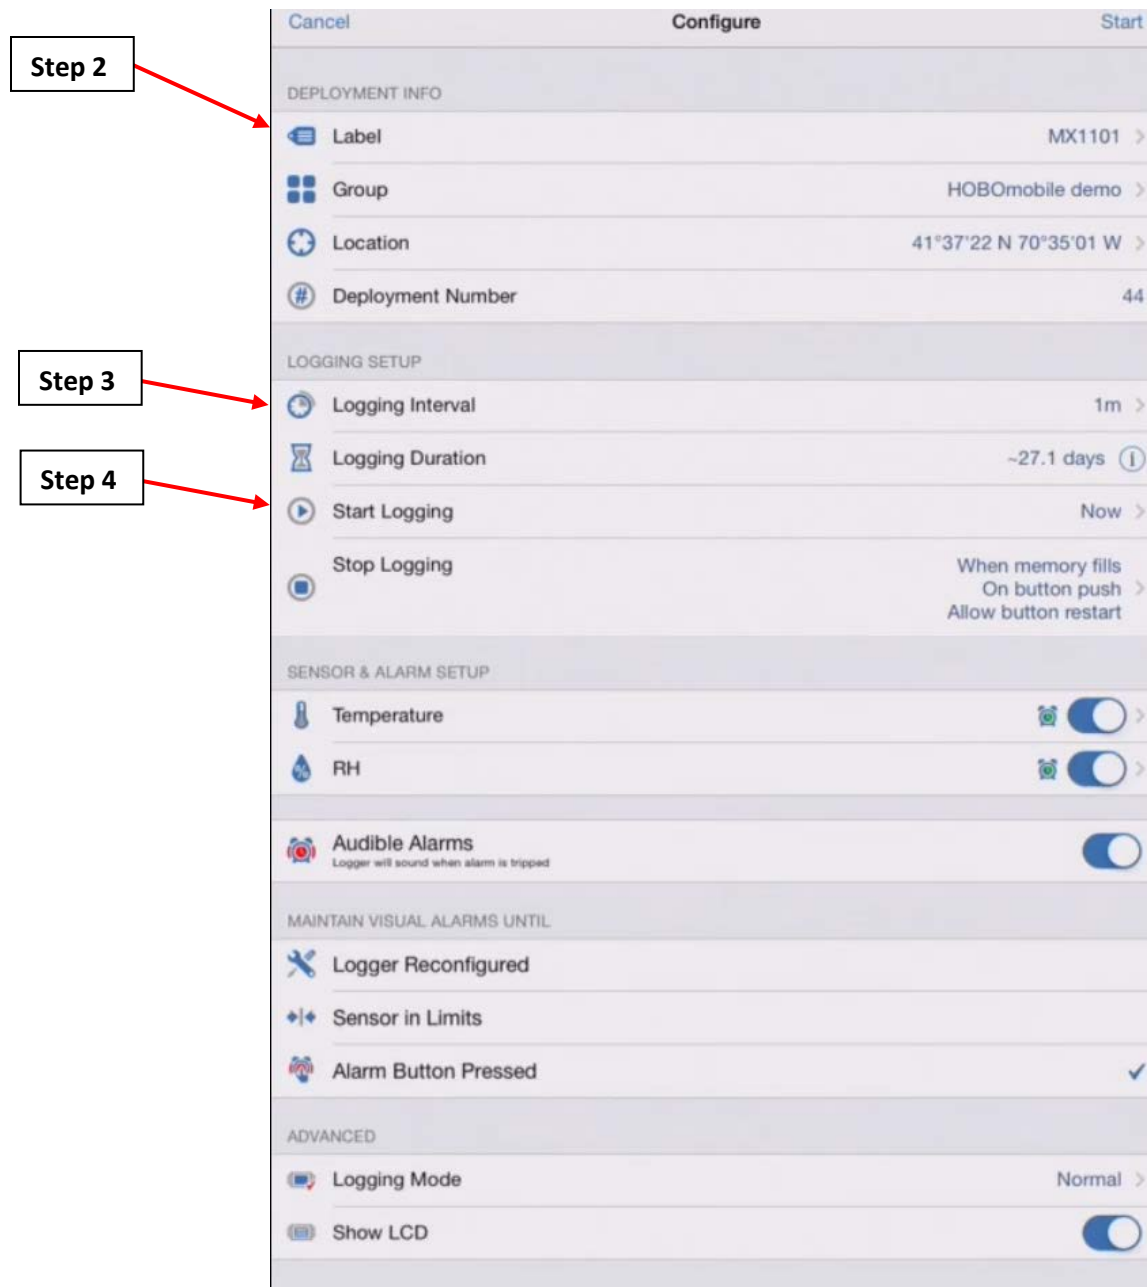
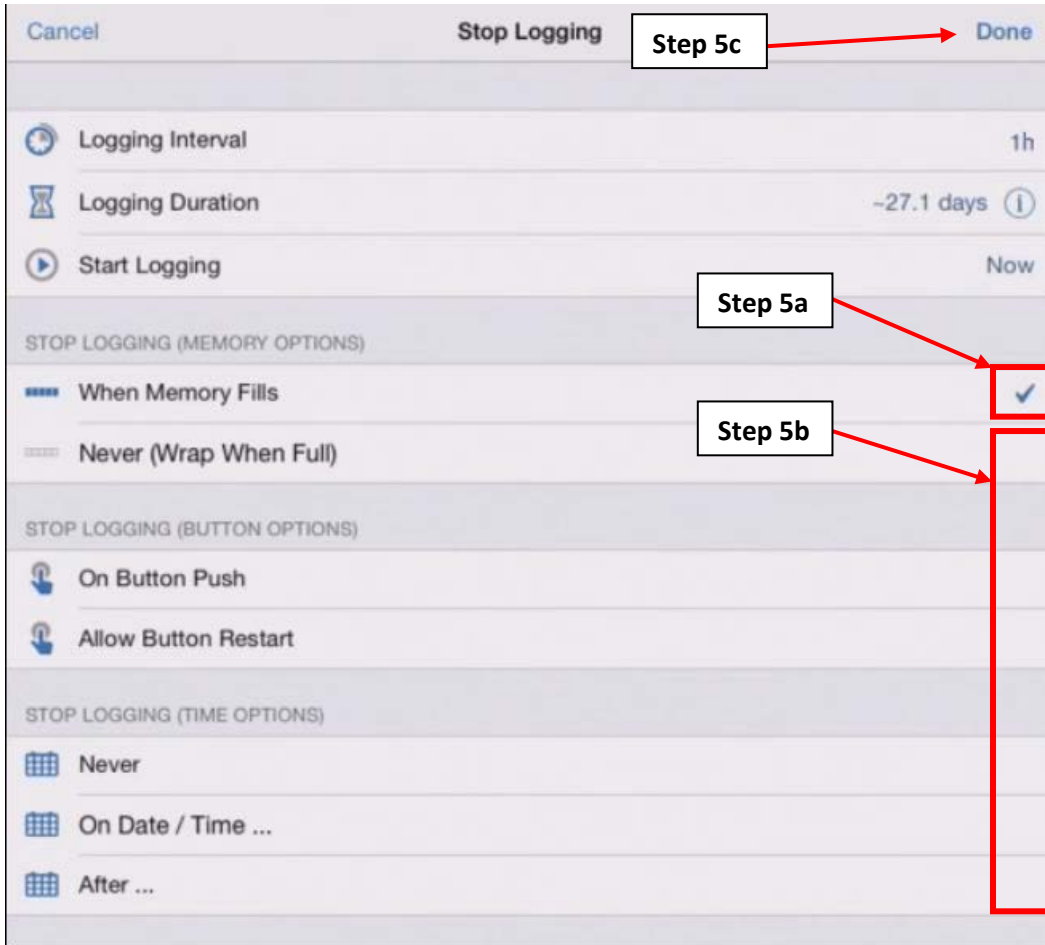

Figure A.6.4: HOBOMobile "Configure" screen.
Figure A.6.9: The “Stop Logging” screen.
The following steps will guide you on which settings to choose in the “Configure” screen shown on Figure A.6.4.
4. At the “Configure” screen (Figure A.6.4) , select the “Start Logging” option to go to the “Start Logging” screen as shown on Figure A.6.7.
5. At the “Configure” screen (Figure A.6.4), select the “Stop Logging” option to go to the “Stop Logging” screen as shown on Figure A.6.9.